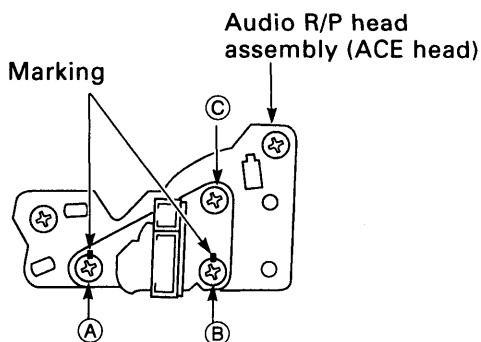

Fig.4-3-5
##### (1) Hight/azimuth adjustment (See Fig.4-3-5)